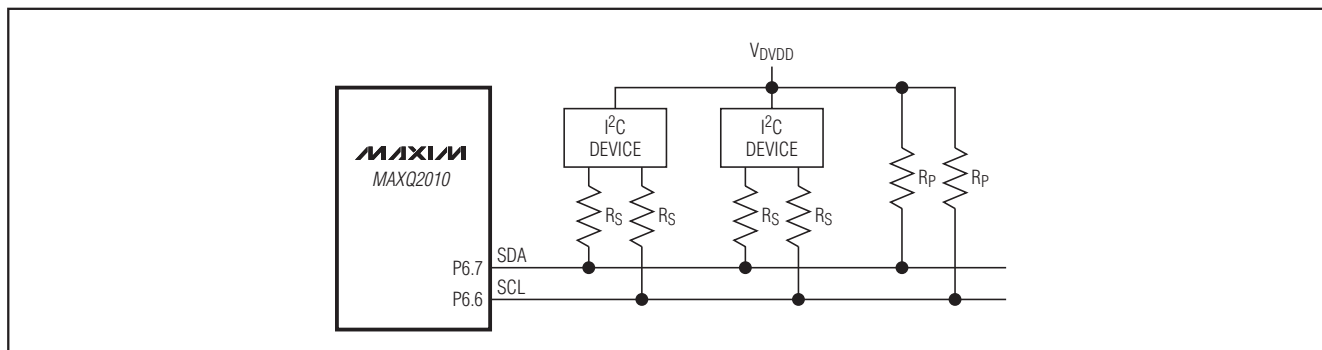

図3. 高電圧スパイクに対する保護のための直列抵抗(Rs)
**Note 19:** Devices that use nonstandard supply voltages that do not conform to the intended I2C bus system levels must relate their input levels to the voltage to which the pullup resistors Rp are connected. See Figure 3.
**Note 21:** The maximum fall time of 300ns for the SDA and SCL bus lines shown in the I2C Bus Controller Timing table is longer than the specified maximum tOF\_I2C of 250ns for the output stages. This allows series protection resistors (Rs) to be connected between the SDA/SCL pins and the SDA/SCL bus lines as shown in the I2C Bus Controller Timing (Acting as I2C Slave) table without exceeding the maximum specified fall time. See Figure 3.